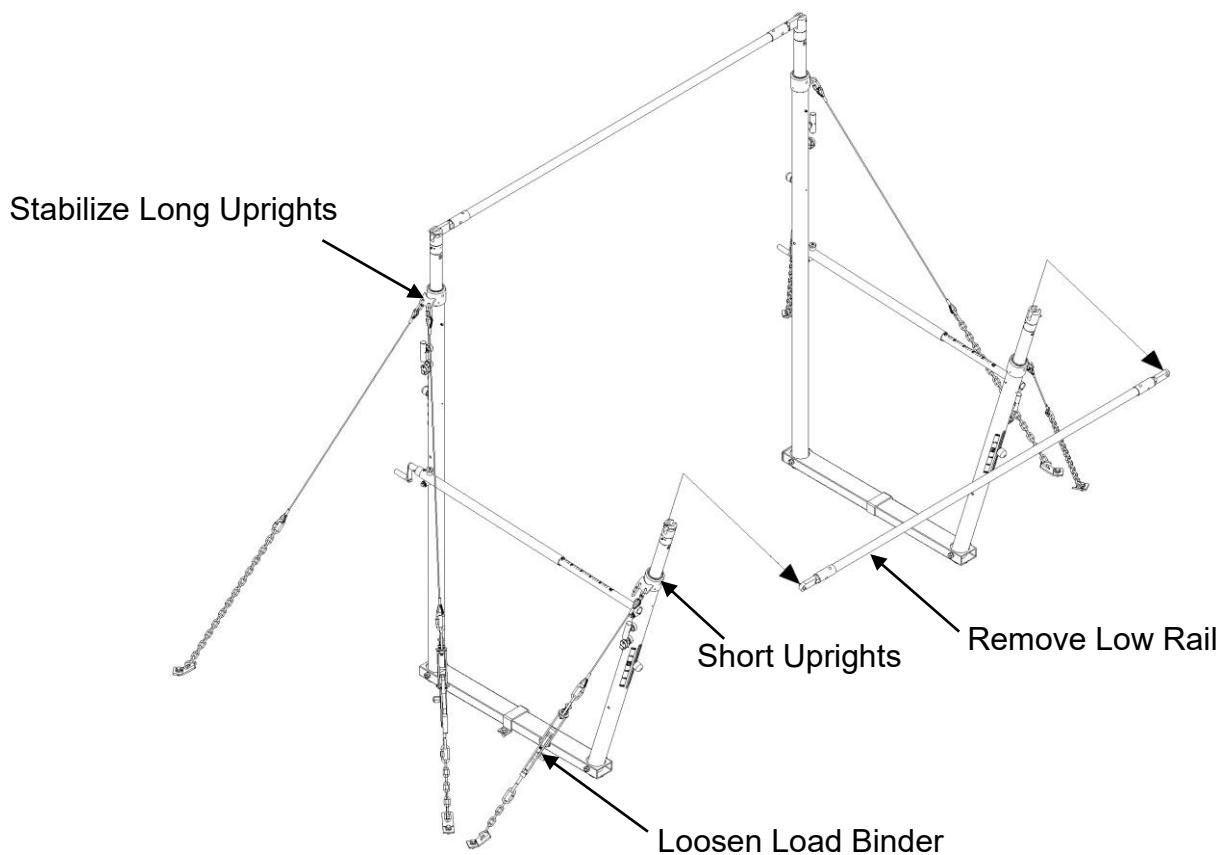

Figure 11
2. Loosen the tension on the short upright load binder. (See Fig. 11 below)